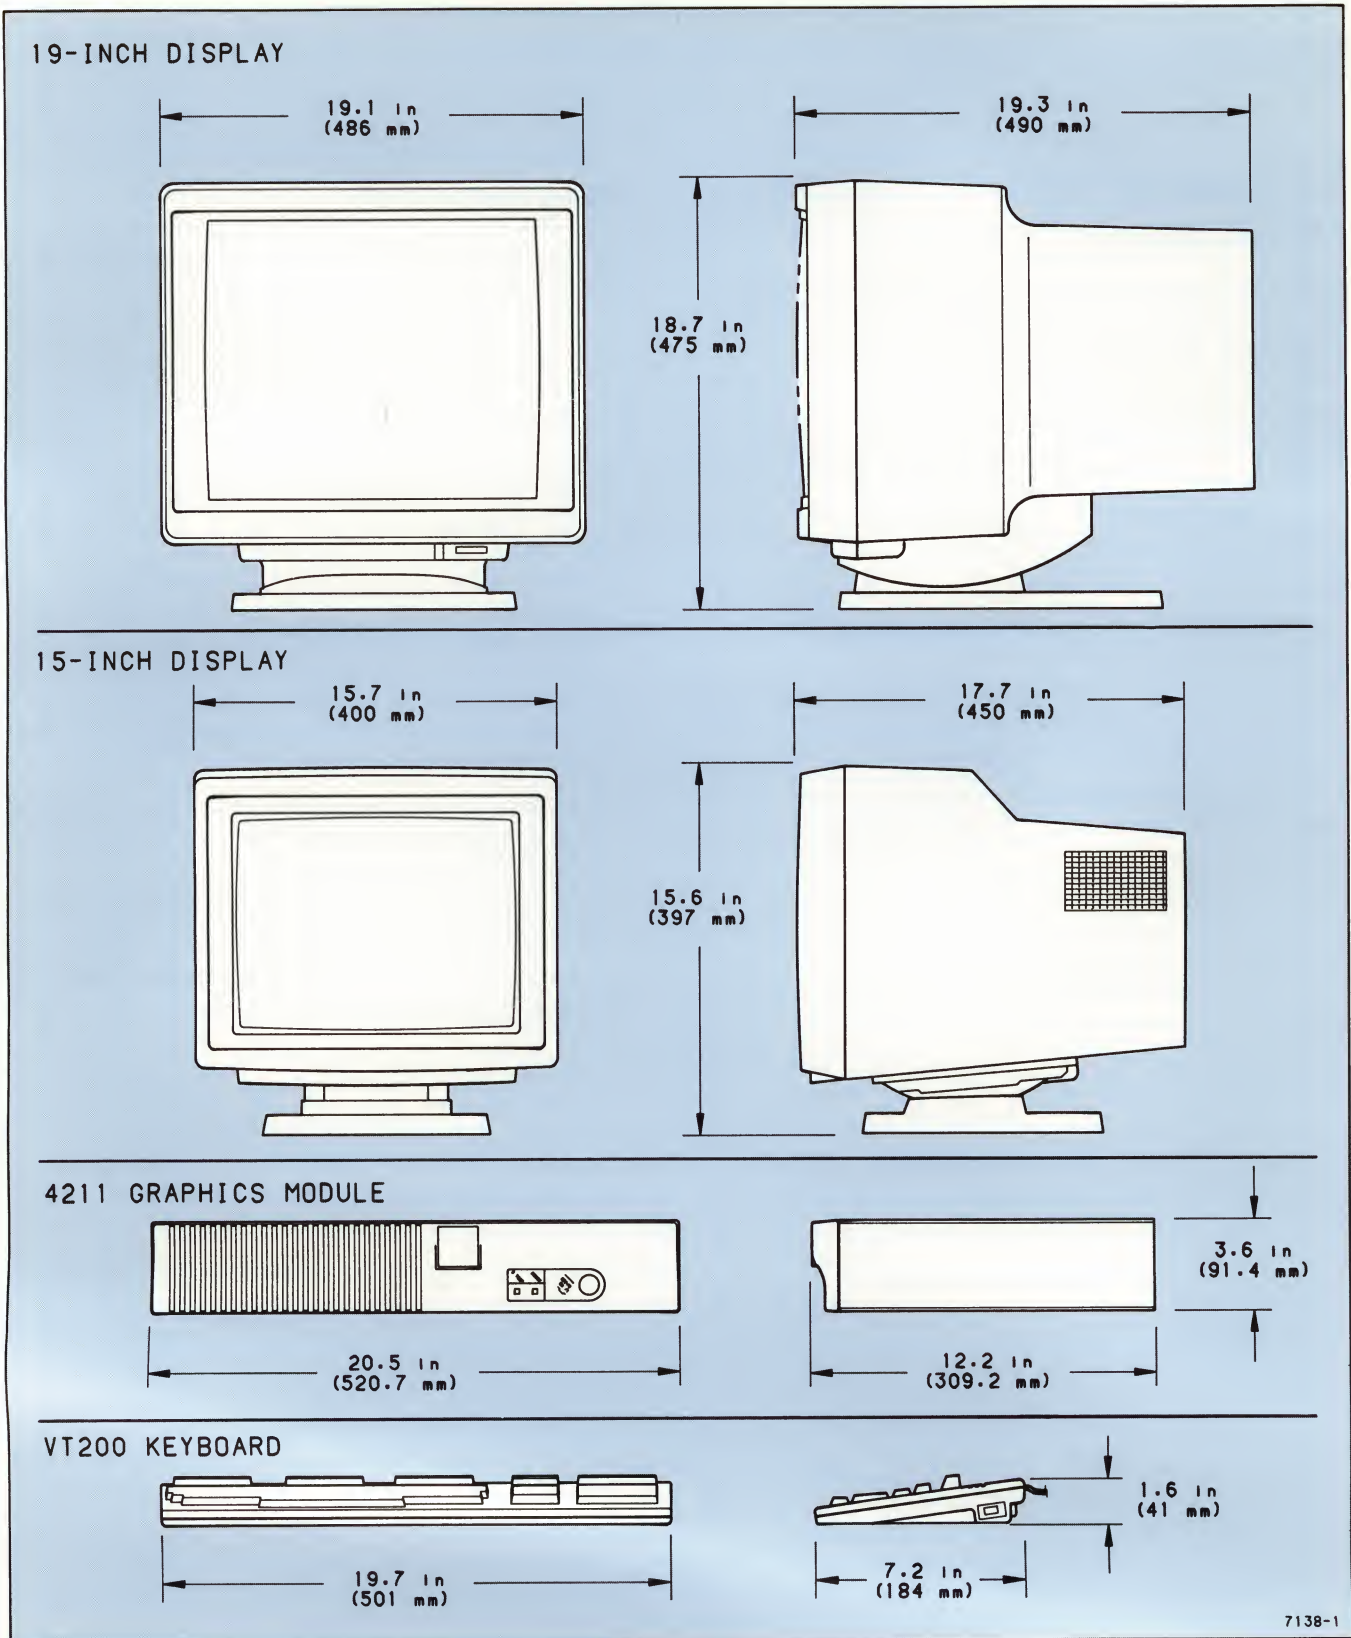

Figure 2-1. Dimensions and Clearances.
- The site should provide enough room for adequate ventilation and cable routing. The Display module's air vents should be at least 6 in. (152 mm) from the nearest wall or surface. Allow at least 6 in. (152 mm) at the rear of the Display for cable routing. Allow 3 in. (76 mm) at the rear for the Graphics module. Use Figure 2-1 (next page) as a guide.